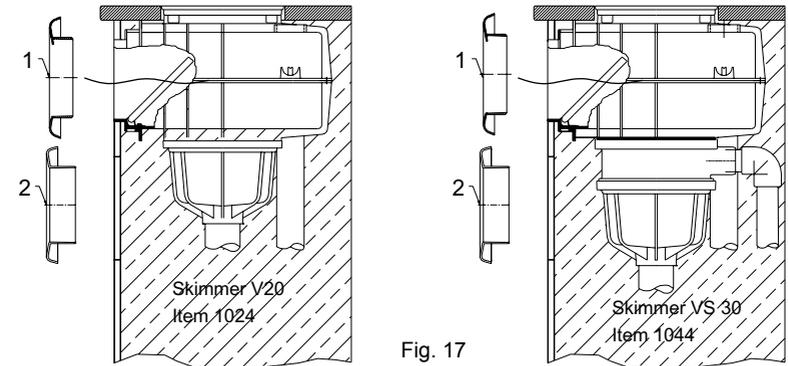

Fig. 17
3.2 Installing V20 and VS30 skimmers in tiled concrete pools (Fig 17)